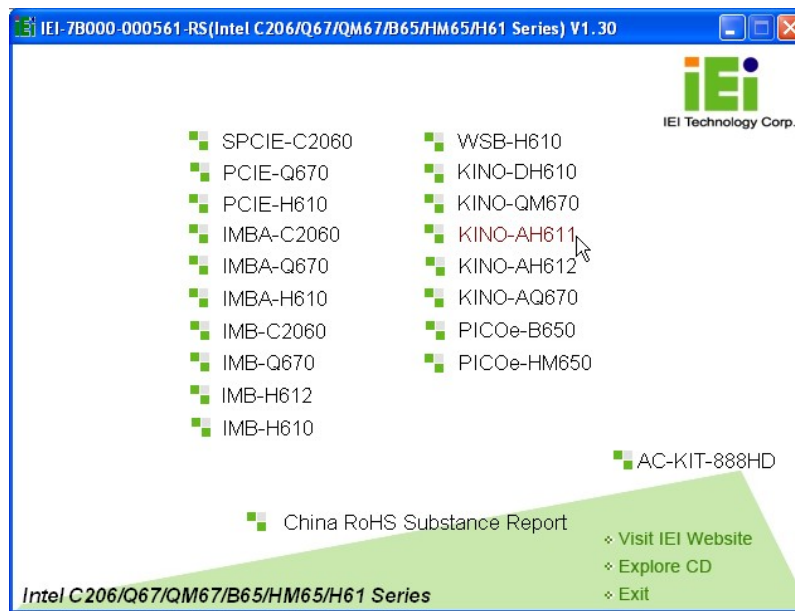

Figure 6-1: Introduction Screen
Step 2: The driver main menu appears (**Figure 6-1**).